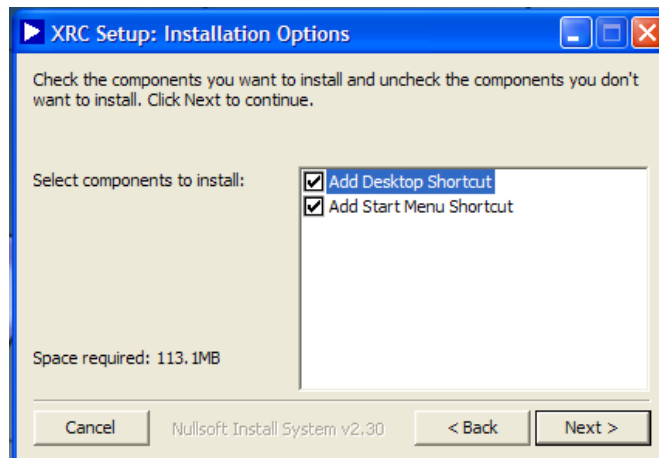

Figure 3 - Installation Options
4. Select the desired access links – desktop shortcut and/or start menu shortcut (see Figure 3)